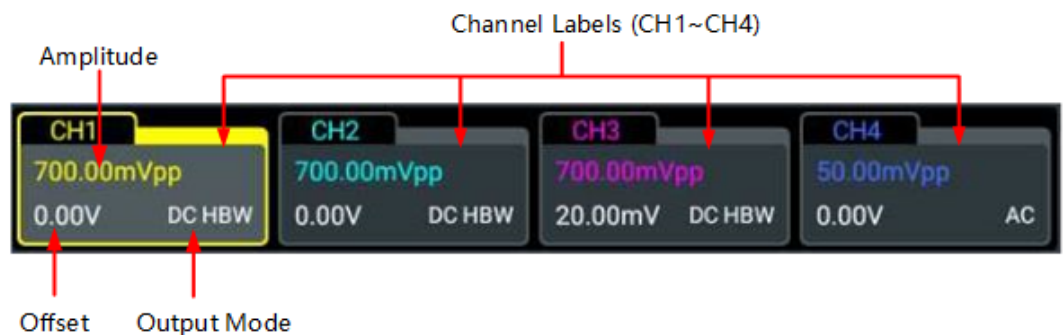

Figure 11.1 Channel Labels
- Click or tap any channel label at the bottom of the screen as shown in *Figure 11.1* to access the menu of the corresponding channel.
You can also view the current output settings of the specified channel directly from the channel label at the bottom of the screen, as is shown in *Figure 11.1*.